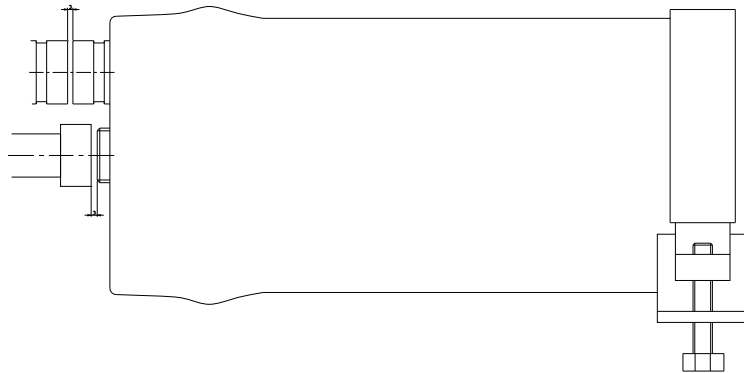

Figure 4
1. Connect the vessel to piping manifolds while adjusting the position of the shell and piping manifolds. Try to align the feed port and concentrate port. The distance between the vessel and piping manifolds should be set as 3 mm (Figure 4). Try to align in all directions. The Victaulic® coupling should be able to be tightened without applying any adhesive on it. Lock the vessel and piping manifolds in place only after all alignment procedures are finished.